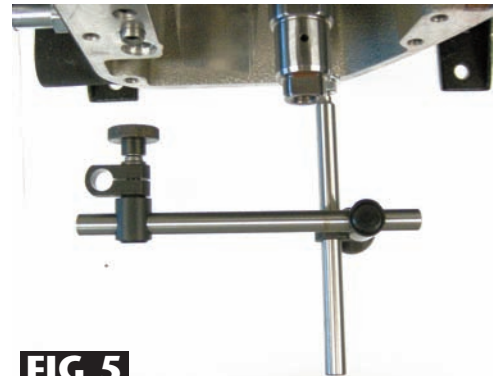

FIG 5
5. Install the other swivel clamp No.940-5 over the installed shaft No.940-6 with mounting hole to the outside (away from cases). Do not tighten wheel nut. **See Fig 5.**